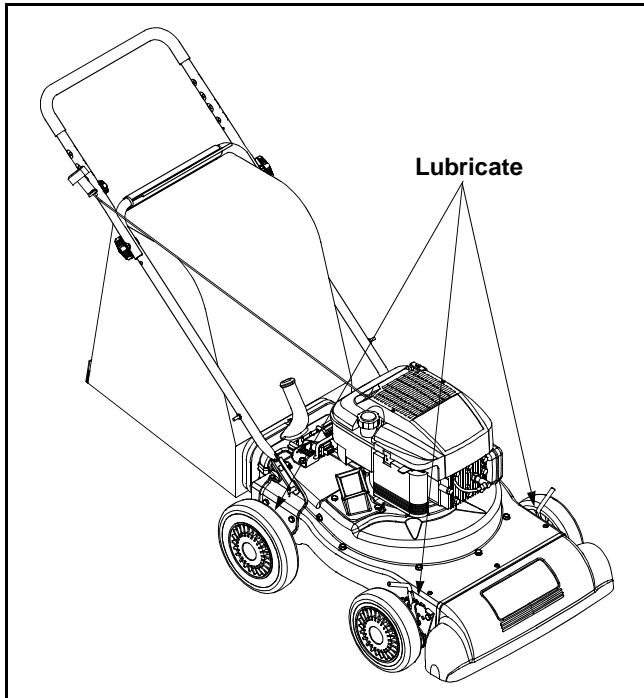

Figure 9
**Wheels:** Lubricate each wheel shoulder screw once a season with light oil. See Figure 9.
**Nozzle height adjustment levers:** Lubricate the pivot points of the nozzle height adjustment levers once a season with light oil. See Figure 9.